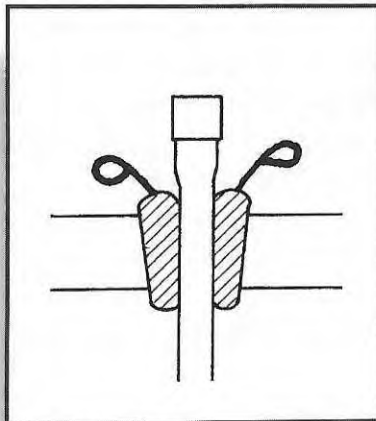

FIG. 6-10 Slips
- **Slips** are used to hang the string from the rig floor. They wrap around the pipe, wedging it against a recess in the floor. When the string is picked up, the slips come free and can be removed. Slips are normally operated by hand, but power slips are also available (FIGURE 6-10).